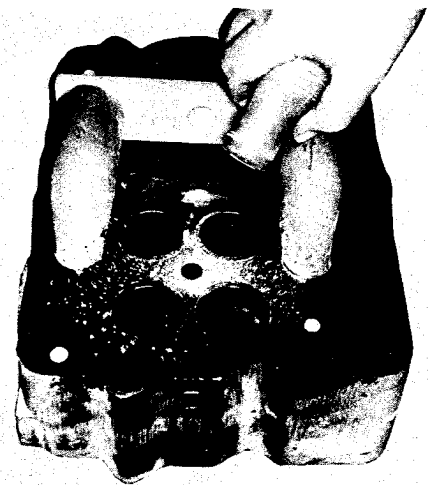

Fig. 2-6, (N10279). Magnetic crack detection check with ST-1166
3. Spray a moderate amount of powder onto area to be checked. Fig. 2-6. Blow off excess powder with low pressure air. Powder will remain in cracks, and show as a white line.
- Check valve seat width, it should be 0.063 to 0.125 inch [1.59 to 3.18 mm], see (1 or 2, Fig. 2-6).
- If seating area (1) is wider than 0.125 inch [3.18 mm] maximum, stock can be removed from points (3) and (4) with specially dressed stones. Narrowing should not extend beyond chamfer on valve seat insert. Chamfer provides metal for staking or peening.
- Check valve seat concentricity with valve seat indicator. Total run-out should not exceed value listed in Table 2-1 (4).